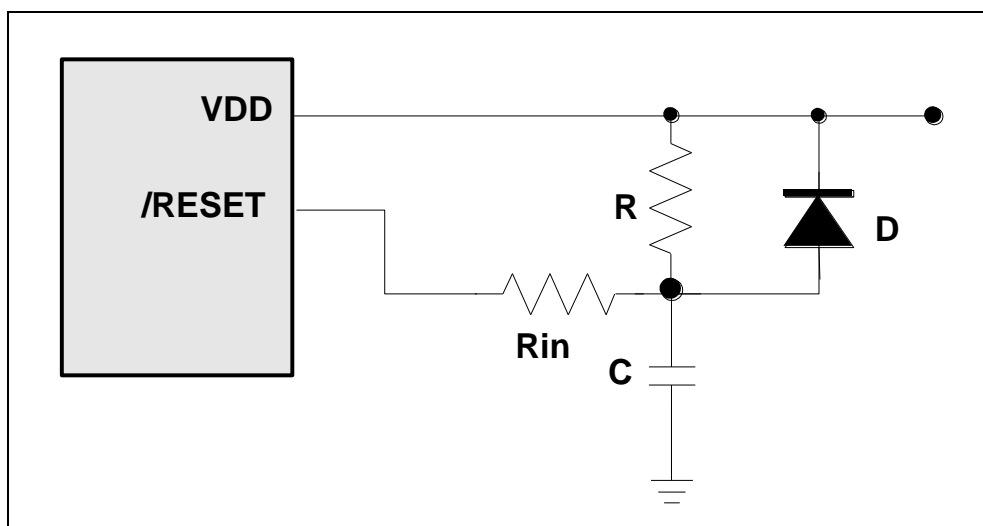

Figure 6-12 External Power-on Reset Circuit
The circuit shown in Figure 6-12 implements an external RC to produce a reset pulse. The pulse width (time constant) should be kept long enough to allow VDD to reach minimum operation voltage. This circuit is used when the power supply has a slow rise time. Because the current leakage from the /RESET pin is $\pm 5 \mu\text{A}$, it is recommended that R should not be greater than 40K. In this way, the voltage at Pin /RESET is held below 0.2V. The diode (D) acts as a short circuit at power-down. The capacitor, C, is discharged rapidly and fully. The current-limited resistor Rin, prevents high current discharge or ESD (electrostatic discharge) from flowing into Pin /RESET.